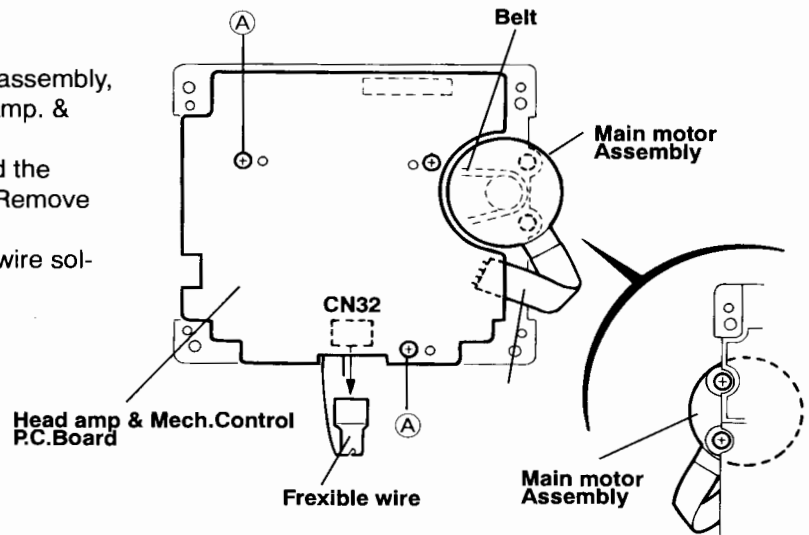
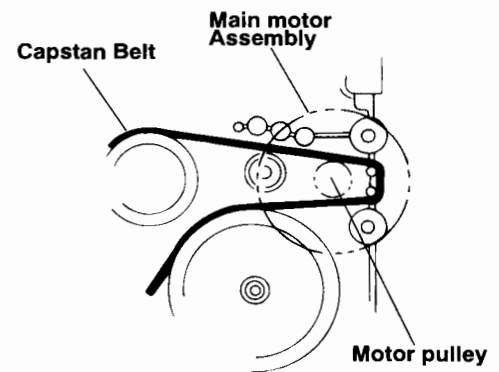
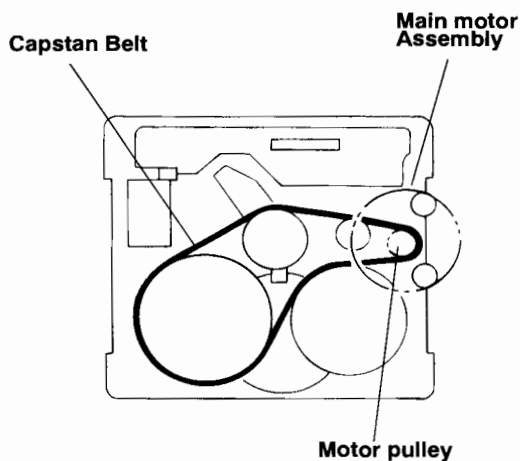
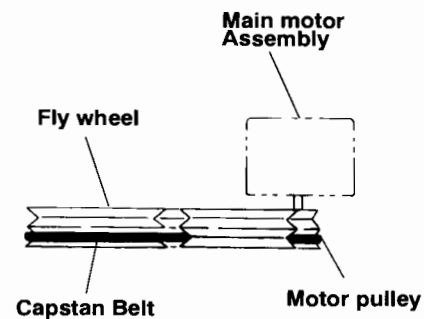

Fig.4
Fig.5
Fig.6
Fig.7
Headamp & Control P.C.Boards Removal (See Fig.4)
Main motor Removal (See Fig.4.Fig.5Fig6.Fig.7)
- 1.Remove the 2 screws (B) retaining the main motor assembly.(See Fig.4.Fig.5)
- 2.While raising the main motor,remove the main motor belt from the motor pulley.(See Fig.5)
Caution: Be sure to handle the capstan belt so carefully that that this belt will not be stained by grease and other foreign matter.Moreover, these belts should be hanged while referring to the capstan belt hanging method in Fig.6.Fig.7.